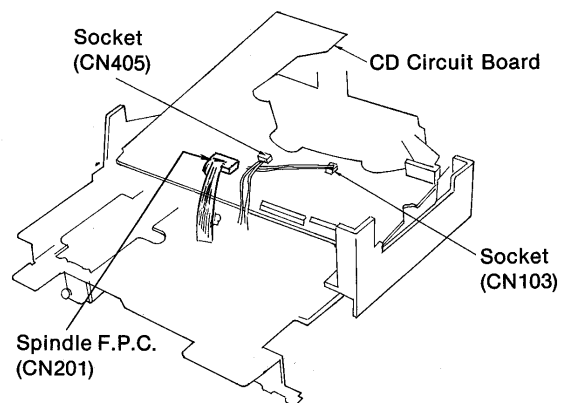

Fig. 4
8. Remove the spindle F.P.C. (CN201) and the CN405 (2 pin) socket and connect with the F.P.C. extension cord (SZZP1075C) and the extension connector (SZZ1076C) respectively. (Fig. 4)
9. Disconnect the CN103 (2 pin) socket, pass the wires positioned under the circuit board over the top of the circuit board, and reconnect the CN103 socket. (Fig. 4)